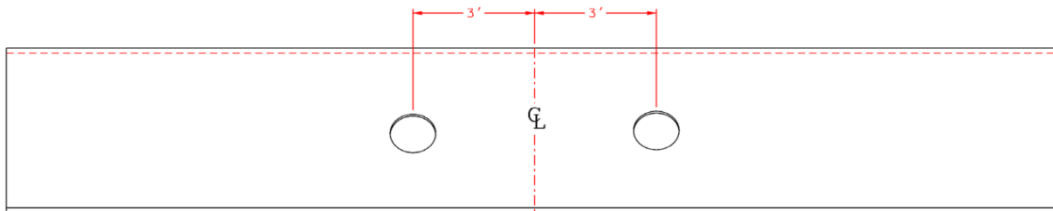

FIGURE 1
1. First, check that the lifting capacity of the excavator, at the working radius, exceeds the combined weight of the V-8Esc assembly and the pile. Then, lift the pile using an appropriately sized cable between the lifting point on the Rototilt assembly and the lifting hole in the pile. (Refer to figures 1 and 2). Once the pile is hanging nearly vertical, guide it into the hammer jaws or thread the pile into an already driven pile. Position the jaws on the pile (see figure 2) and close the jaws and start the hammer. The vibration, coupled with the down crowd force of the excavator drives the pile. Do not exceed the down crowd force rating.
2. Cut pile handling holes 2ft. or more above center of the pile on either side of center as required to position pile in jaws as shown in figure 1.